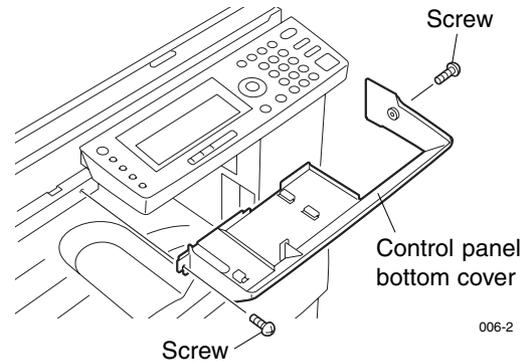

Fig. 2-6-8
(See Fig. 2-6-8)
7. Detach control panel bottom cover. (See Fig. 2-6-8)